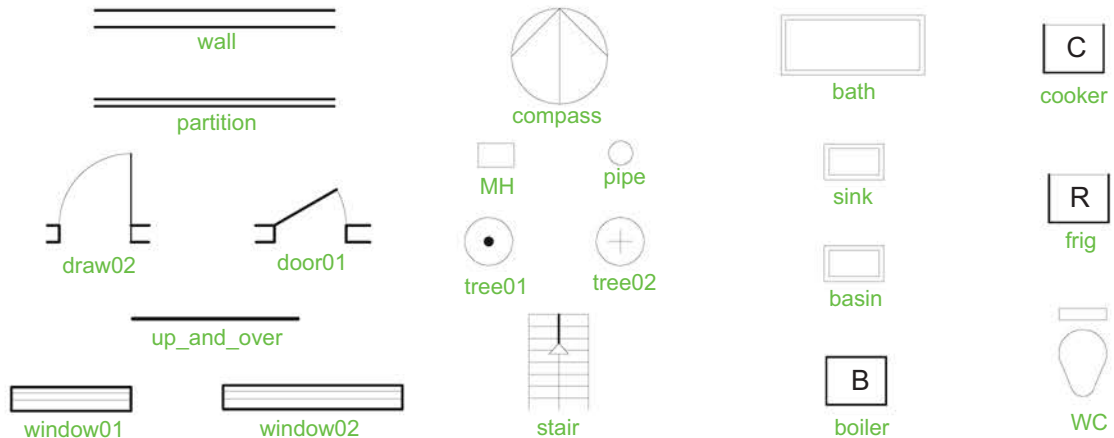

Fig. 13.21 Exercise 1
1. Construct the building symbols in Fig. 13.21 in a drawing saved as **symbols.dwg**. Then, using the **DesignCenter**, construct a building drawing of the first floor of the house you are living in making use of the symbols. Do not bother too much about dimensions because this exercise is designed to practise using the idea of making blocks and using the **DesignCenter**.